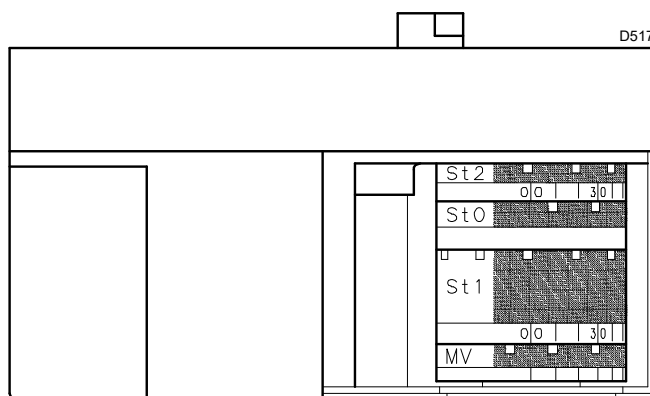

Fig. 30
- If it is necessary to reduce it, slightly decrease the angle of orange lever (Fig. 30 on page 28) with small, regular movements, i.e. bring it from an angle of 15° to 13° - 11°...